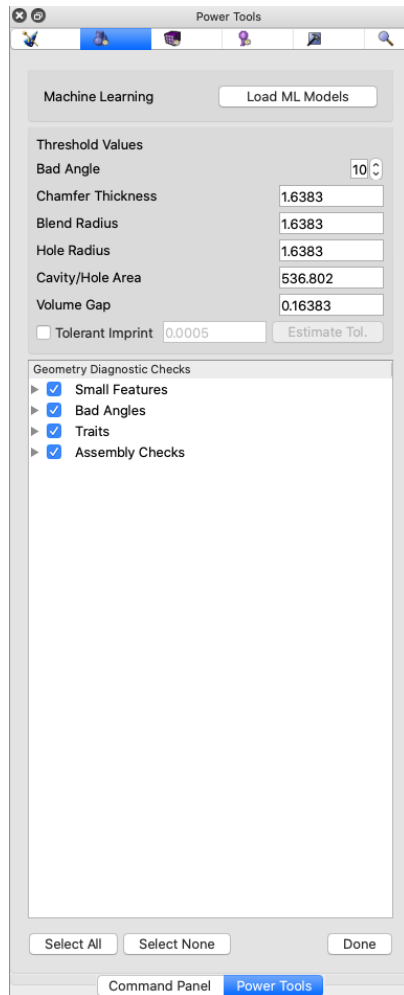

Figure 2. Options panel without ML models loaded
3. The panel shown in Figure 2. should appear. Click the button labelled **Load ML Models**